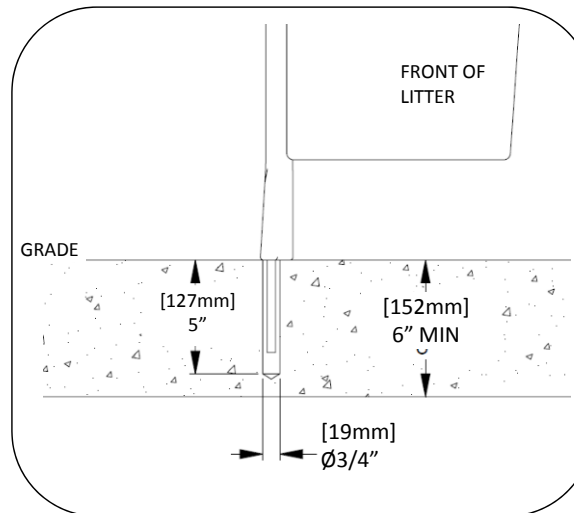

Fig. 2 – Single embed litter anchor hole size
3. Drill holes according to Fig. 2 or 3, depending on litter style. Clear holes of debris.